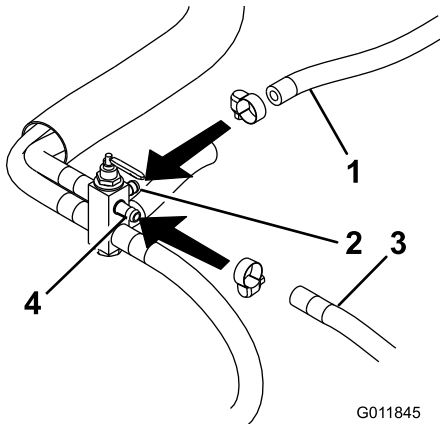

Figure 5
12. Install the fuel hose from the top left hand fuel tank to the new selector valve at the left hand top port with a new hose clamp. Ensure the clamp is tight (Figure 5).
13. Install the return fuel hose from the engine to the new selector valve at the center top port with a new hose clamp. Ensure the clamp is tight (Figure 5).